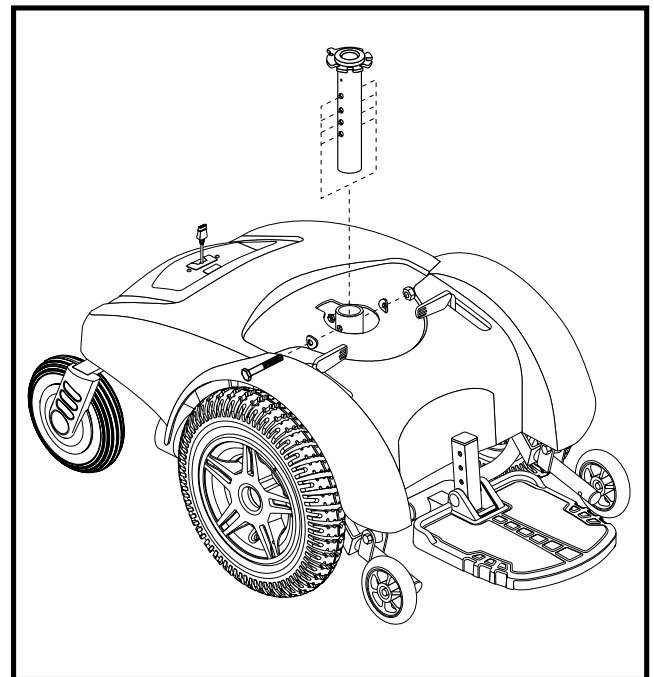

Figure 12. Seat Height Adjustment
7. Remove the seat height adjustment bolt, washers, and nut from the seat tower. See figure 12.